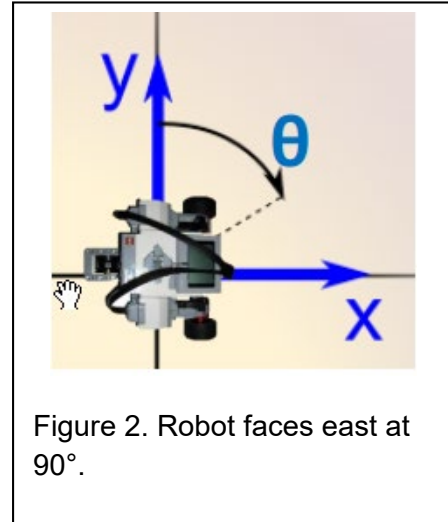

Figure 2. Robot faces east at 90°.
- You must follow the (X,Y,θ) convention specific to this lab (refer to **Figure 2**).